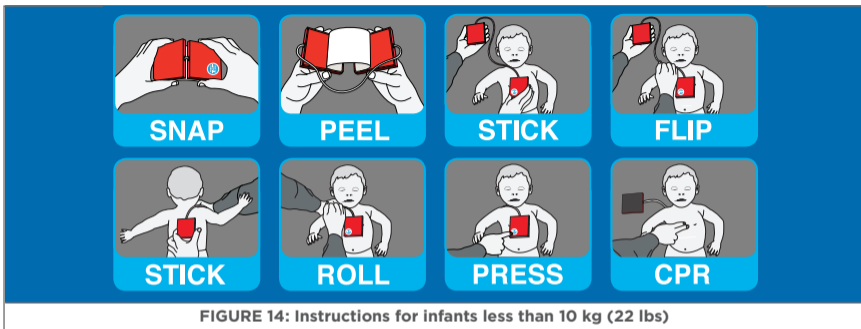

FIGURE 14: Instructions for infants less than 10 kg (22 lbs)
To activate the CellaAED®, perform the Snap Peel Stick™ actions (**Figure 14, page 42**).
- vi) STICK the pad featuring the blue Infant Mode button firmly onto the infant's exposed skin on the chest between the nipples (**Figure 14, page 42**). Press firmly so that the entire pad adheres to the infant's skin.
DANGER: Correct pad placement and good pad contact with the skin is critical (refer to **Figure 14, page 42** for Infants weighing less than 10 kg (22 lbs)).
FOR ADULT, APPLY PADS ACROSS CHEST. FOR INFANT, APPLY PADS TO CHEST AND BACK.	Apply the electrode pads as instructed. Be prepared beforehand to place the electrode pads correctly. Take note of the difference between patients weighing greater than 10 kg (22 lbs) (both pads applied to the chest) and infants weighing less than 10 kg (22lbs) (one pad applied to the chest and one applied to the back) (refer to Figure 9A (page 37) for patients weighing greater than 10 kg (22lbs) and Figure 14 (page 42) for infants weighing less than 10 kg (22lbs)).